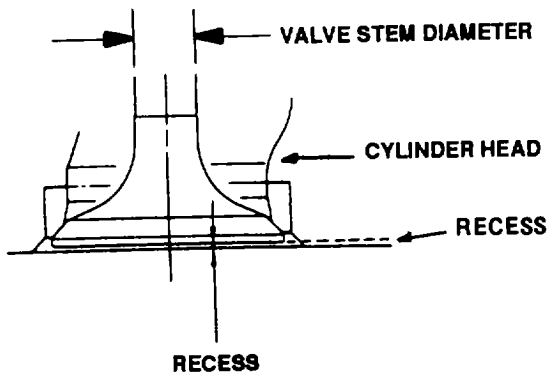

Figure 6-3. Valve Recess
- d. Refer to Figure 6-3. Check that each valve stem diameter is greater than 0.2126 inch (5.40 mm).